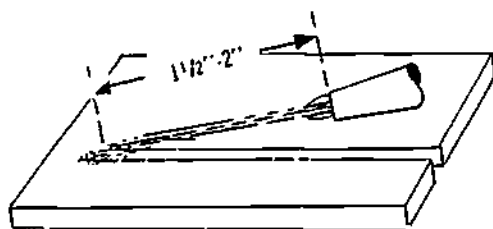

Figure 8-46. Cutting Thin Metals — Angle of Torch
- Step 3. Hold the torch at a very flat angle about 1 1/2" - 2" away from the surface of the metal (Figure 8-46).